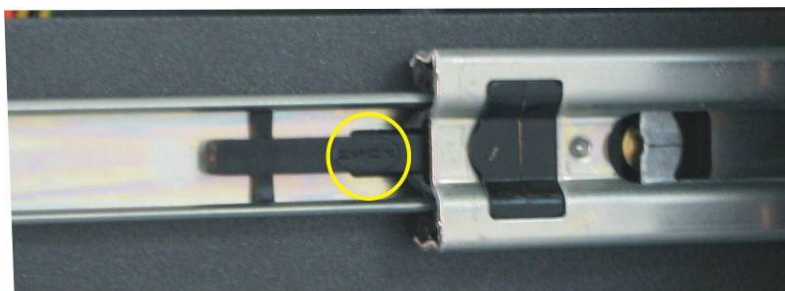

Figure 27 Rack slide lock
5. Now carefully insert the instrument into the rack by placing the instrument slides into the lid slides, ensure that the rack slide locks engage (Figure 27) on each side (you will hear a click) and gently slide the instrument into the rack.
2. Find the rack slide lock labelled “push” (Figure 27) and push it in whilst sliding the instrument out of the rack, complete this for both sides before carefully removing instrument